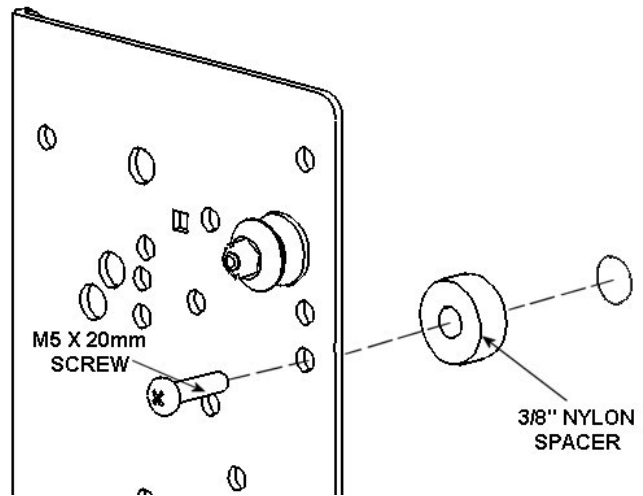
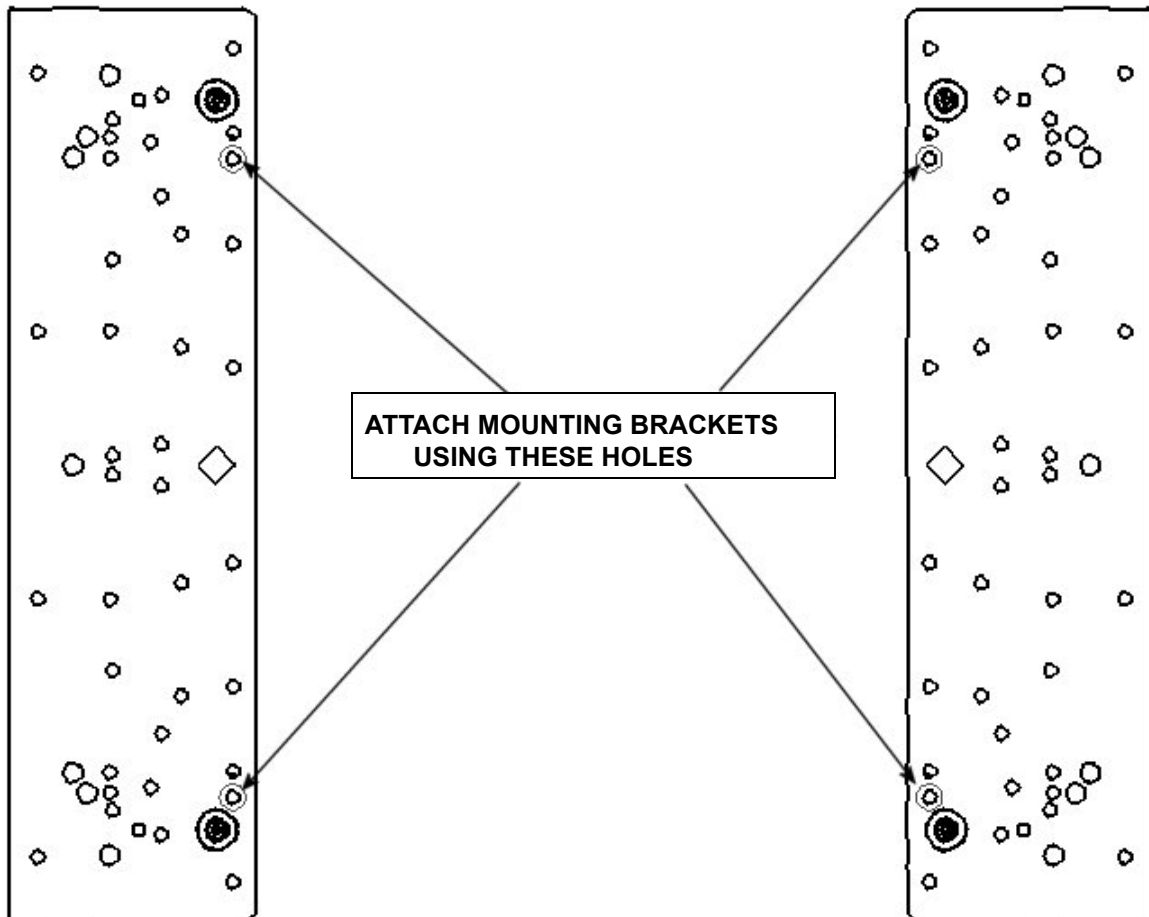

Figure 12. Spacer Installation for Group 5
Figure 13. Bracket Attachment for Group 5
4. Place the interface brackets over the Nylon spacers (see Figure 12 and Figure 13).
6. Using the hardware in the parts bag labeled C, attach the interface brackets to your display in the proper holes in each interface bracket (See Figure 12 and Figure 13). Do not overtighten the mounting screws.